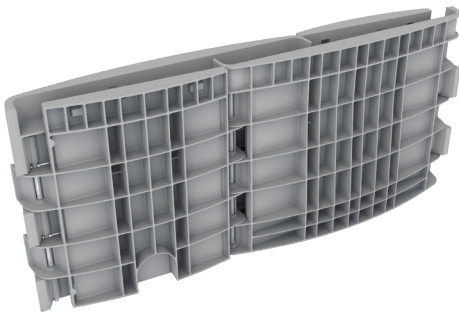

Figure 1
3. Remove enclosure from the pallet/packaging to prepare for placement (**Figure 1**).